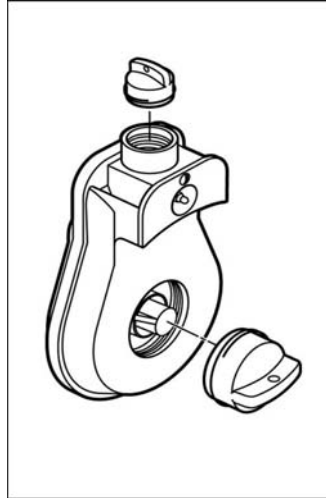

Fig: 3
3. Remove inlet and outlet motor/blower plugs as shown and check that the gaskets are in place. Do not discard the plugs; they should be re-inserted during cleaning (Fig. 3).